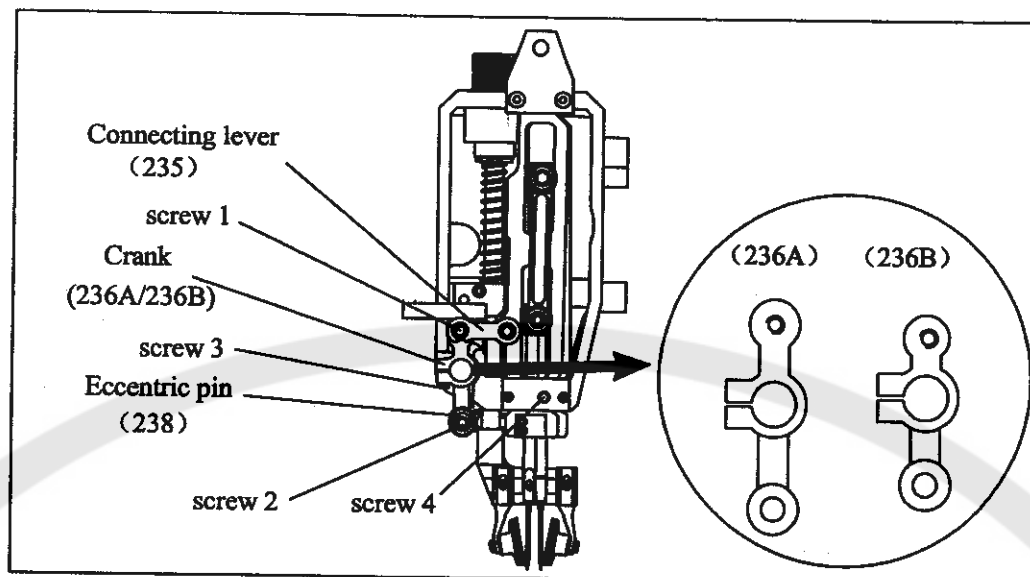

Fig 7
To replace the crank(236A/236B), proceed as follows(Fig 7)
- loosen the screw 3 (shown in Fig 7).
- Tighten the screw 4 (shown in Fig 7).
Attention: After setting the stitching seam, rotate the pulley (203) by hand at least 4 circles to see if the distance between two needles is always same. If not, loosen the screw 3 of the crank (236A/236B) and rotate the crank (236A/236B) a little angles in the clockwise direction or in the anti-clockwise direction until the distance between two needles is always same before and after two needles be intercrossed. (Fig 7)